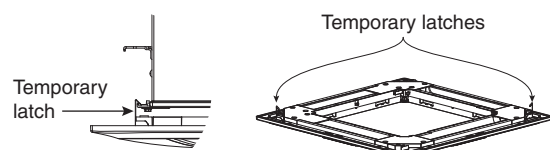

Fig. 7-18
- (1) Hang the temporary latches on the inside of the ceiling panel to the receptacle on the unit to temporarily attach the ceiling panel in place. (Fig. 7-18)
- To remove the ceiling panel, support the ceiling panel while pressing the temporary latches toward the outside. (Fig. 7-18)